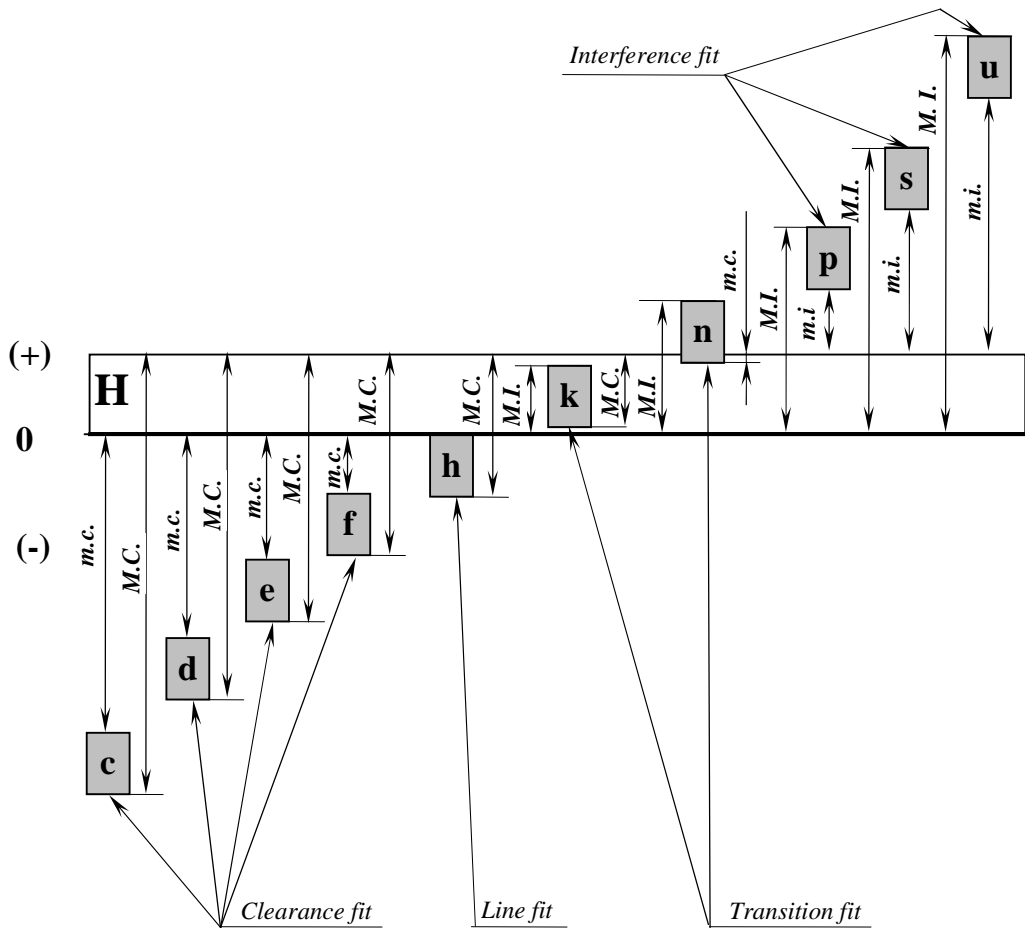

Fig. 6.6
- **Basic Hole System** – is a system of fits in which the allowance is applied only to the *shaft* and the *hole is in the basic size*, that means (Fig. 6.6), the minimum size of the hole is taken as a base from which all variations are made (allowance 0);